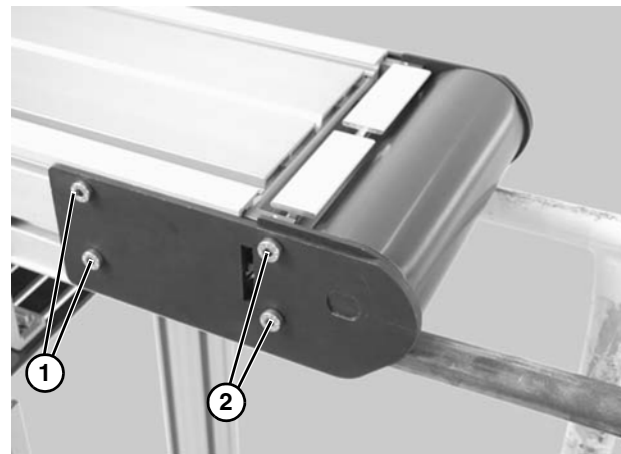

Figure 41
2. On one side of conveyor, loosen the two (2) back fastening screws (**Figure 41, item 1**) and remove two (2) front fastening screws (**Figure 41, item 2**).